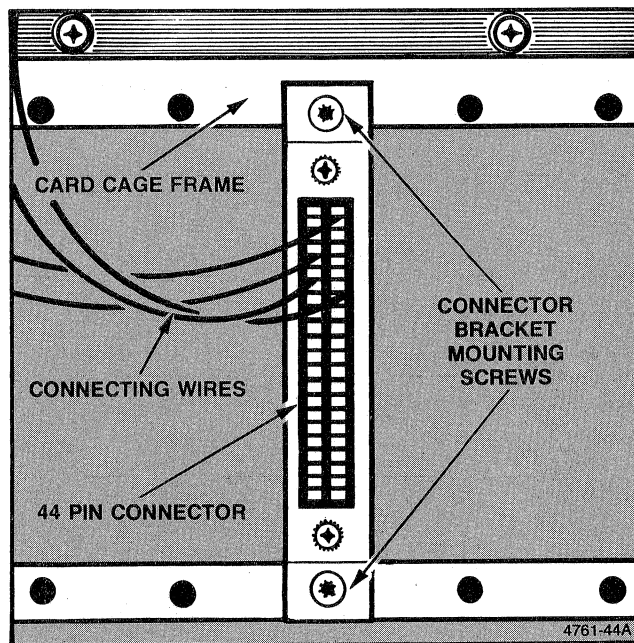

Figure 6. 44-Pin Connector Installation.
8. Mate the 44-pin connector on the interface cable to the 44-pin plug on the Color Copier Interface board and secure with two screws (Figure 6).
9. Mate the 44-pin connector on the interface cable to the 44-pin plug on the Color Copier Interface board and secure with two screws (Figure 6).
13. Mate the 44-pin connector on the interface cable to the 44-pin plug on the Color Copier Interface board and secure with two screws (Figure 6).